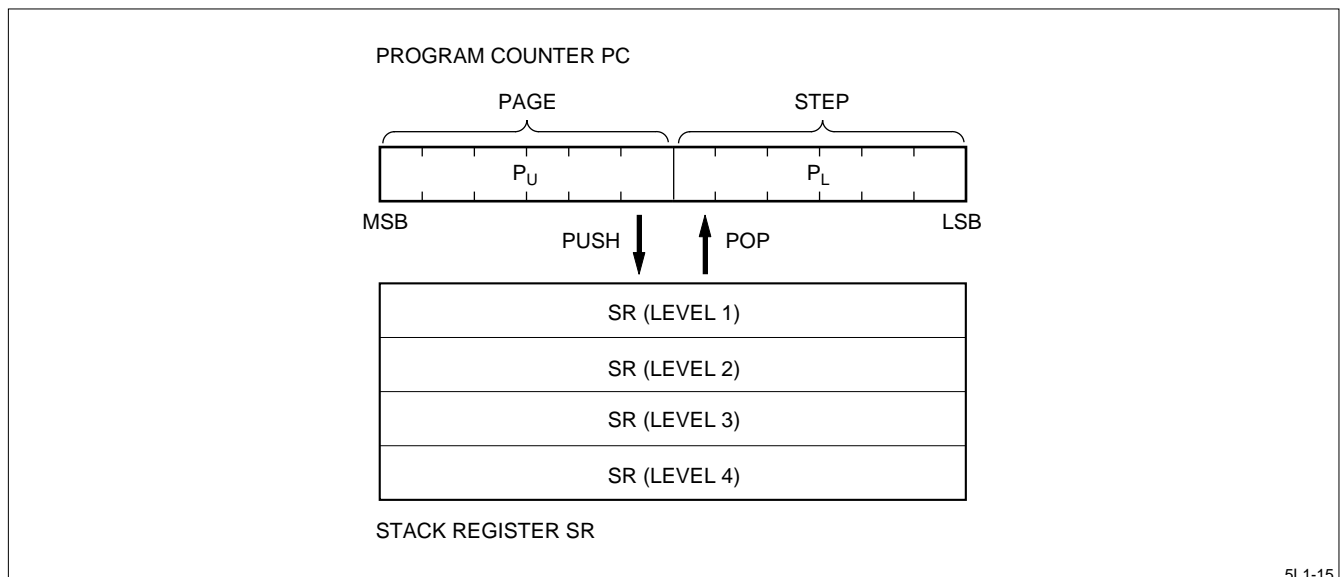

Figure 15. Program Counter PC and Stack Register SR
A ROM address is specified by the program counter (PC). The PC is comprised of 12 bits where 6-bits (P_U) are used to specify the page, and 6-bit are used to specify the step. P_U is a register and P_L is a binary counter. The program counter PC and the Stack Register SR are shown in Figure 15.